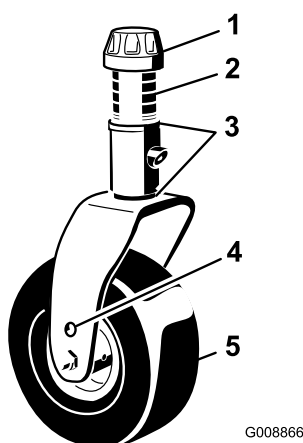

Figure 88
1. Remove the tensioning cap from the spindle shaft and slide the spindle out of the caster arm (Figure 88).